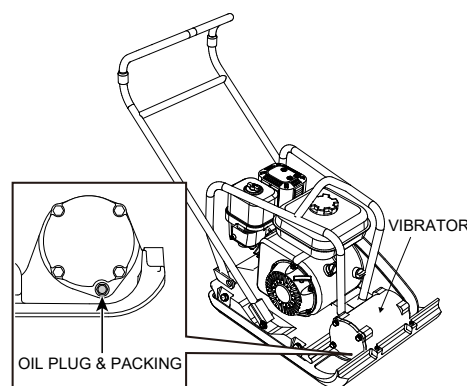

Figure 11. Vibrator Oil Check
2. Check vibrator oil level by removing the oil plug (vibrator oil gauge) as shown in Figure 11. The oil level should be up to the oil plug.